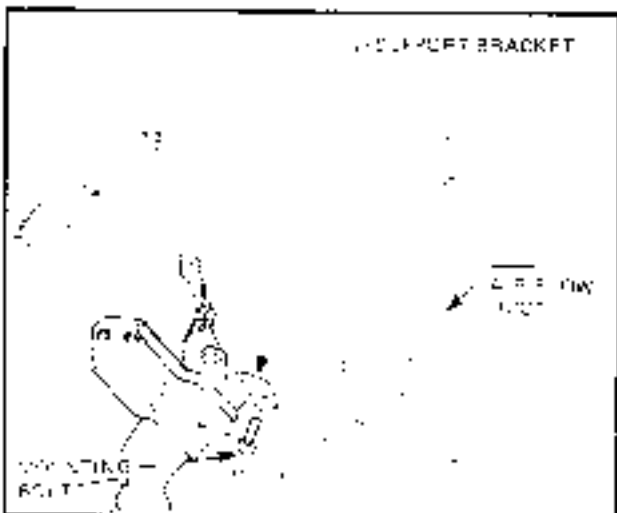

Figure 6C-68A
5. Open snap locks and remove air flow meter with upper section of air cleaner housing. Refer Fig. 6C-69.